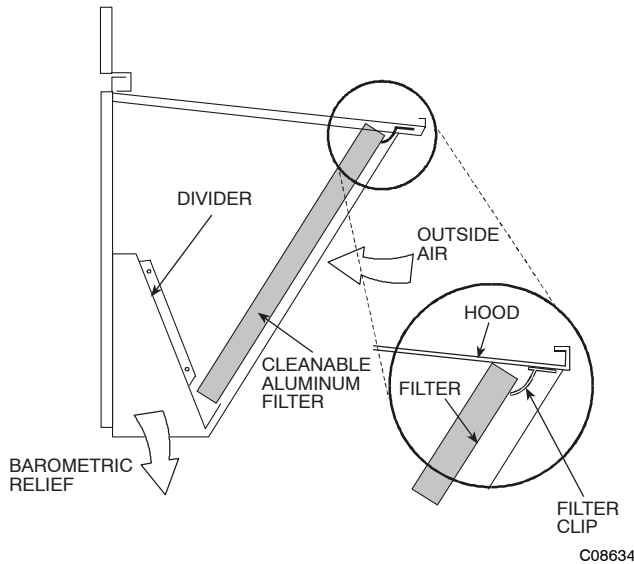

Fig. 12 - Economizer Filter Installation
5. Open the filter clips which are located underneath the hood top. Insert the aluminum filter into the bottom filter rack (hood divider). Push the filter into position past the open filter clips. Close the filter clips to lock the filter into place. See Fig. 12.